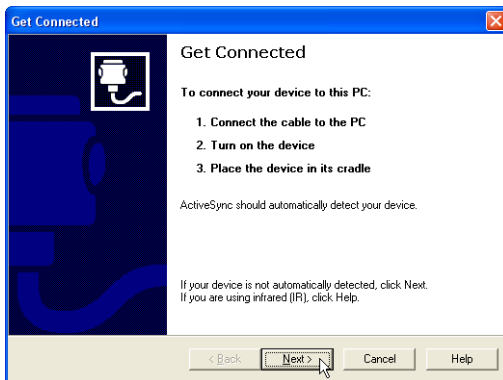

Figure A-2. Connect Using ActiveSync
5. Click **Next** on the *Get Connected* dialog box (Figure A-2).